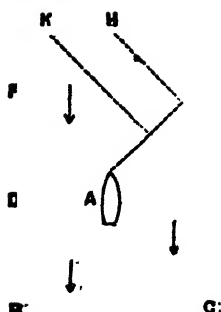

FIG. 5.
**TACKING**.—With the wind blowing in the direction of the arrows, it is evident that the boat at A in Fig. 5 can easily reach B or C, or any point between them, by merely moving there "before the wind." As easily can she reach D or E, having the wind upon her beam in going there; and the last paragraph shows how she can reach F and G, by merely sailing there close-hauled and just within four points of the wind. But how is she to approach any point between F and G—H, for instance—seeing that the wind is then